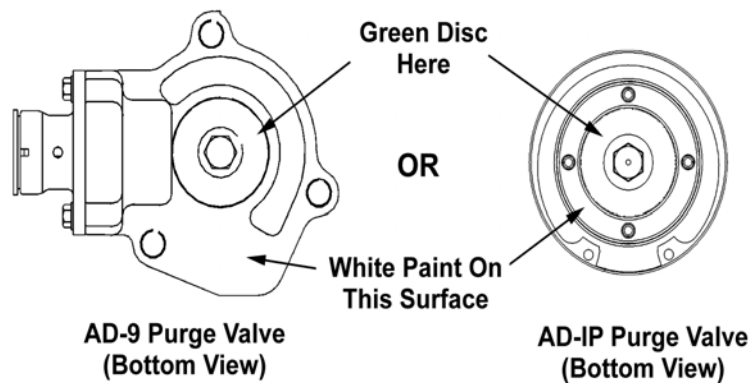

Figure 2 - Identifying New Purge Valve Assy.
2. Visually inspect for the presence of a white paint marking or green disk on the purge valve assembly (see figure 2).